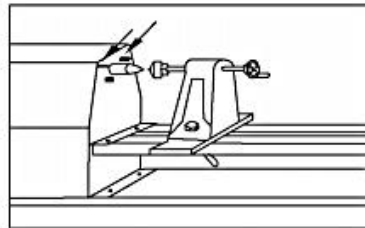

Figure 2
3. Loosen the four hex bolts around the drive center.(as figure 2)